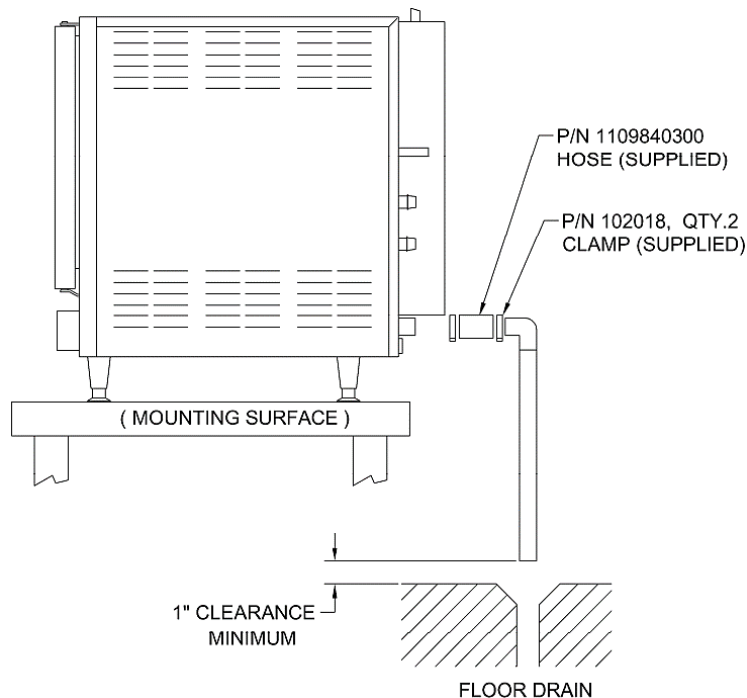

Figure 3-8 Typical Drain Layout
3. Free air venting requires a minimum of 1" clearance between the end of the drain line and the top of the floor drain. See Figure 3-8.
11. Refer to Figure 3-8: Connect the drain.
- c) Pull it down so that the narrow ends of the slots are pulled tight over the mounts. See Figure 3-8.
1. Each slide rack has four loops: two at the top and two at the bottom. Hold the slide rack so the ends of the hanger loops are towards the cooking compartment wall, as shown in Figure 3-8.